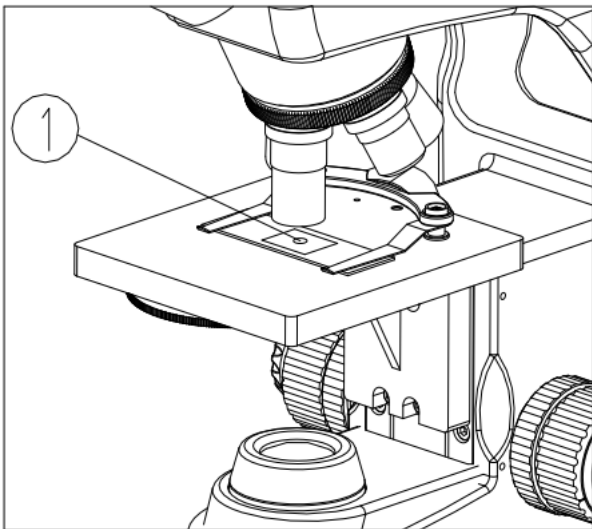

Fig.12
2. Place a drop of oil 1 on the specimen observed (see Fig. 12).